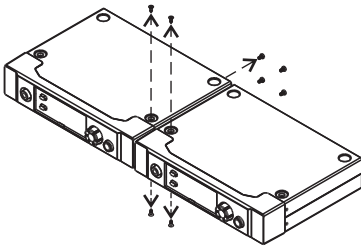

Fig. 13
- (A) Remove top & bottom screws. Fig. 13